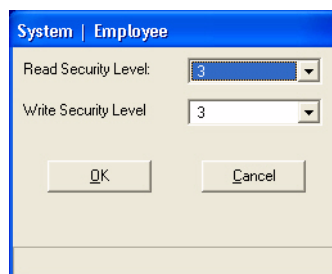

Figure 6-7 Security Levels Modification Window
2. Choose the programming section that you want to set a security level for, then touch **Modify**. The Security Levels Modification window opens as shown in Figure 6-7.